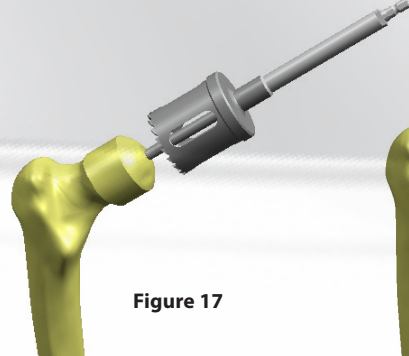

Figure 17
**NOTE:** Determine the head neck junction with a rongeur. This junction can often be higher than the osteophytes show. This is important to preserve the soft tissue vascularity around the neck and avoid notching. Proceed with the reamer with the same size as the femoral component (Figure 17).